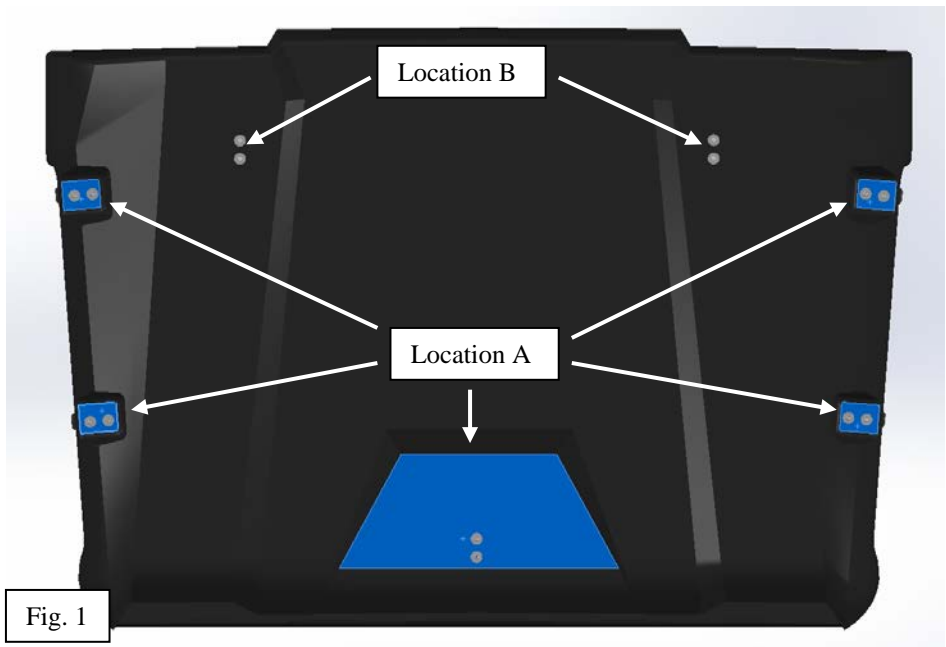

Fig. 1
2. Refer to Configuration A. Use (10) 5/8" torx screws to attach (5) snap clamps in the A locations in Fig. 1.
3. Refer to Configuration B. Use (4) 2" torx screws to attach (4) spacers and (2) snap clamps in the B locations in Fig. 1.